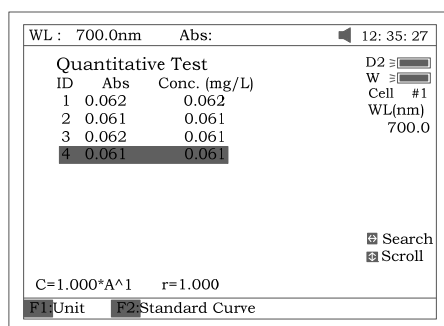

Fig 38
- Pull the sample cuvette into the light path, press the key **[START]**, the results will be displayed on the screen (Fig 38). If there is more than one sample, repeat for the next sample.